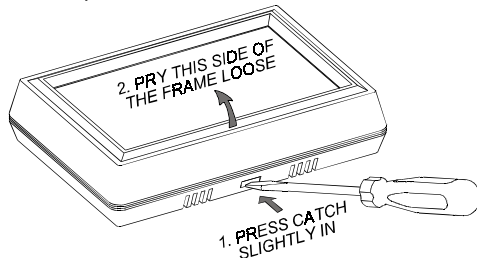

Figure 2. Removing the Front Frame
- A. Insert a screwdriver into the slot as shown in Figure 2, and push the flexible catch slightly inward to disengage it. Pulling the bottom of the frame upward will allow you to free the two tabs at the top and remove the frame.